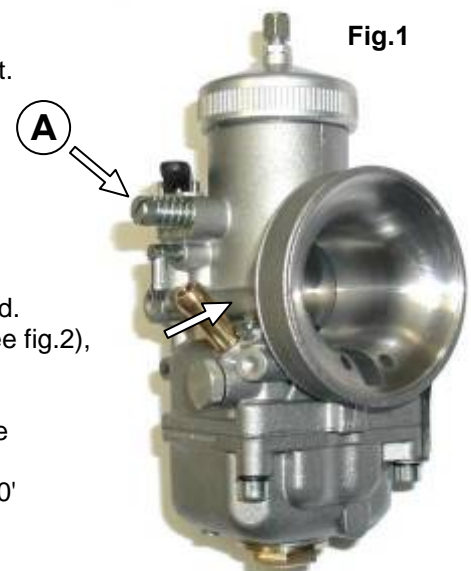

Fig.1
**The idle RPM** can be adjusted by means of the "A screw " (see fig.1), which intervenes on the throttle valve by slightly lifting or and lowering it.
A richer carburation is attainable by turning the air screw "B" clockwise (see fig.1); on the contrary, by unscrewing, you get a leaner carburation. It is suggested to gradually perform the adjustment by 5÷10' turns per time. Then check the result.